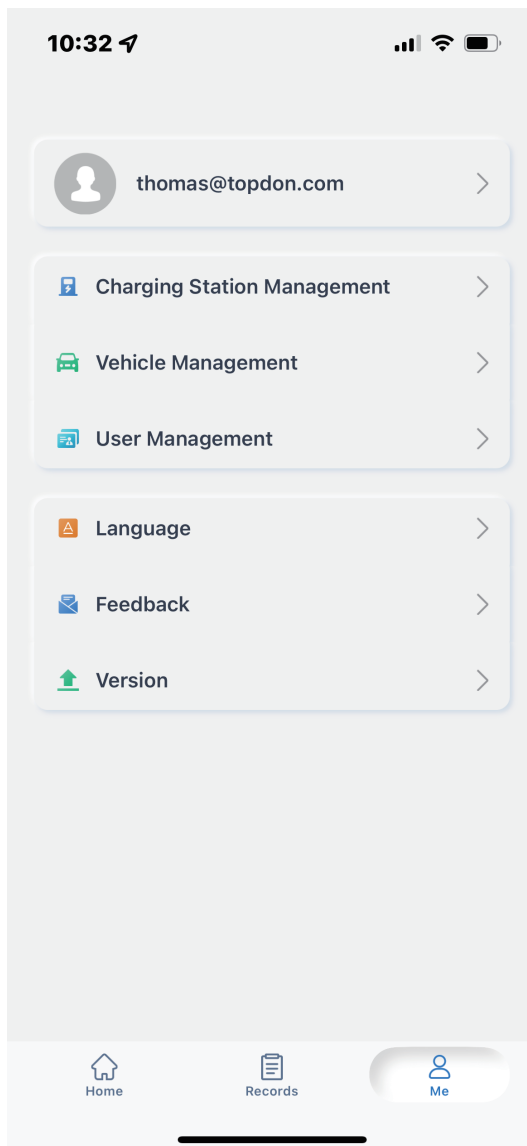

Fig.6.1.3
3. Open the app and tap the User Center, select the charging station management. (See Figure 6.1.3)